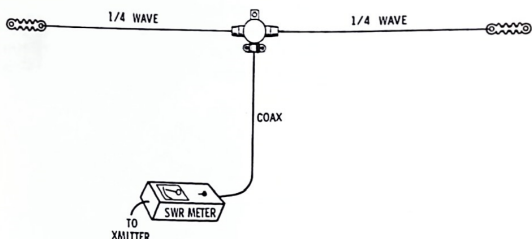

Fig. 3-10. Use of SWR meter to tune up a coaxial dipole.
1. Hook the SWR meter in series with the coax feeder as shown in Fig. 3-10.